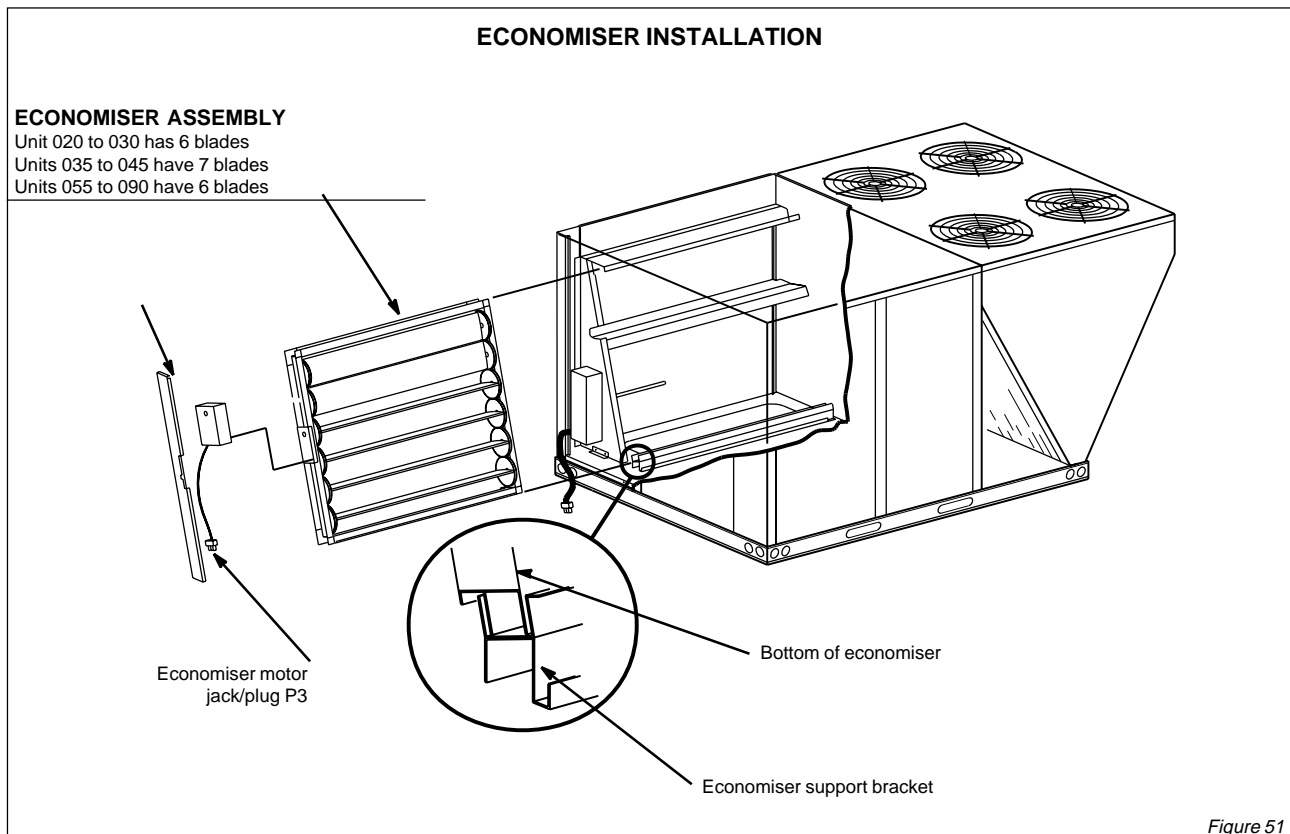

Figure 51
3. Align bottom of economiser with economiser support bracket and slide economiser into unit. See figure 51.